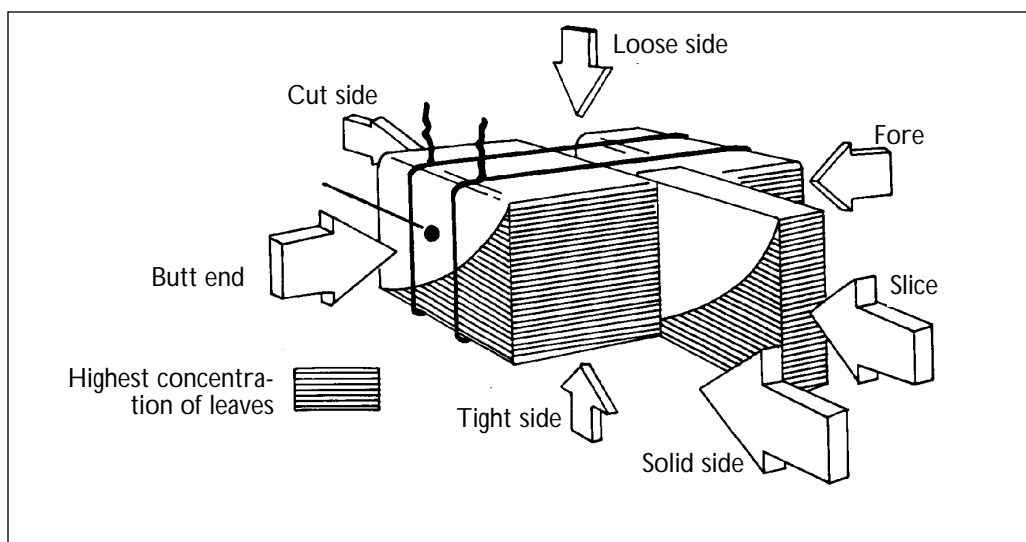

Figure 1. Alfalfa hay bale structure
The small, rectangular two-string bale has been studied more than others. The leaves in these bales tend to concentrate toward the tight and solid sides of the bale (figure 1). The best place to core sample small rectangular bales is through the center of one end. For other bale types, inspect each bale for the distribution of leaves and stems and core sample from
3. Use a bale core sampler to reduce error. The core sampler should have an internal diameter of at least 3/8-inch and a length of 12 to 18 inches. Keep the core sampler tip sharp so it cuts through bales rather than pushes stems aside. The core sampler works with either a variable speed 1/2-inch drill or a hand brace. Using the drill or brace, insert the core sampler its entire length into the center of the end of the bale, at a right angle to the end face (figure 1).